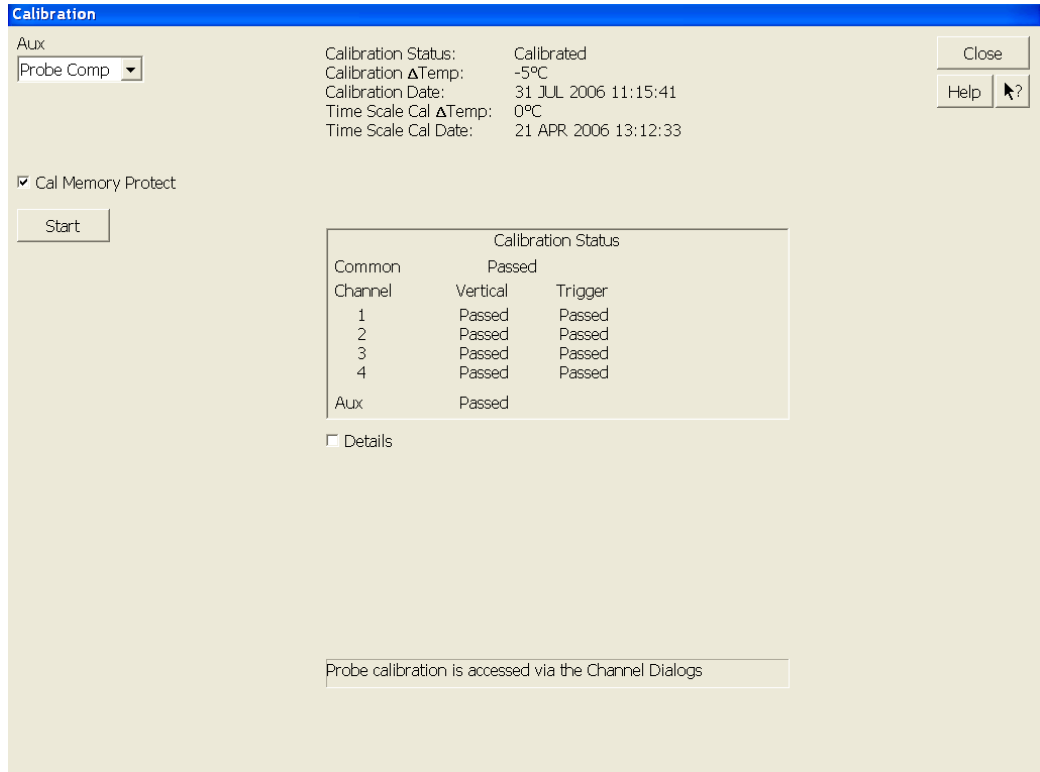

Figure 42 Oscilloscope Calibration Window
- 4 Referring to **Figure 42** below, perform the following steps to start the calibration: